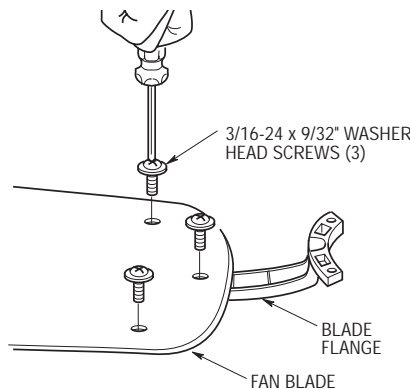

Figure 7
- 2. Mount the blade flanges to the fan blades using three 3/16-24 x 9/32" washer head screws per blade (supplied) (Figure 7). Repeat for four remaining blades.